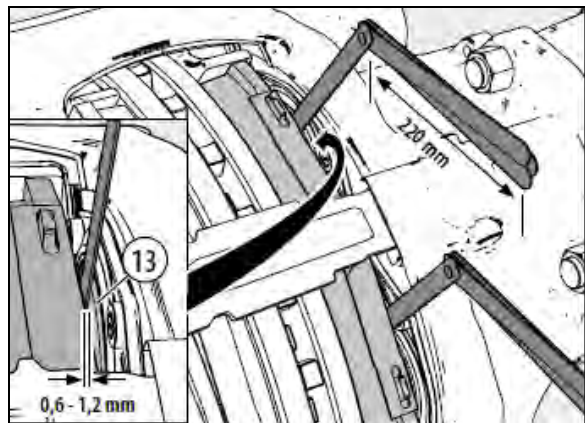

FIGURE 42: CHECK GAP BETWEEN TAPPETS AND INBOARD PAD
9. Set the starting gap by turning the adjuster (23) with the shear adapter (61) backwards and then forwards (note that when turning backwards a noticeable clicking can be heard and felt), until a value of 0.051 in (1.3 mm) air gap has been achieved (measure between the brake pad and tappets (13)).
11. Check the gap between each of the tappets (13) and inboard pad backplate (12). This must be measured over the whole tappet surface of both tappets using two feeler gages simultaneously (feeler gages must be at least 8 ½ in / 220 mm long) (see Figure 42).